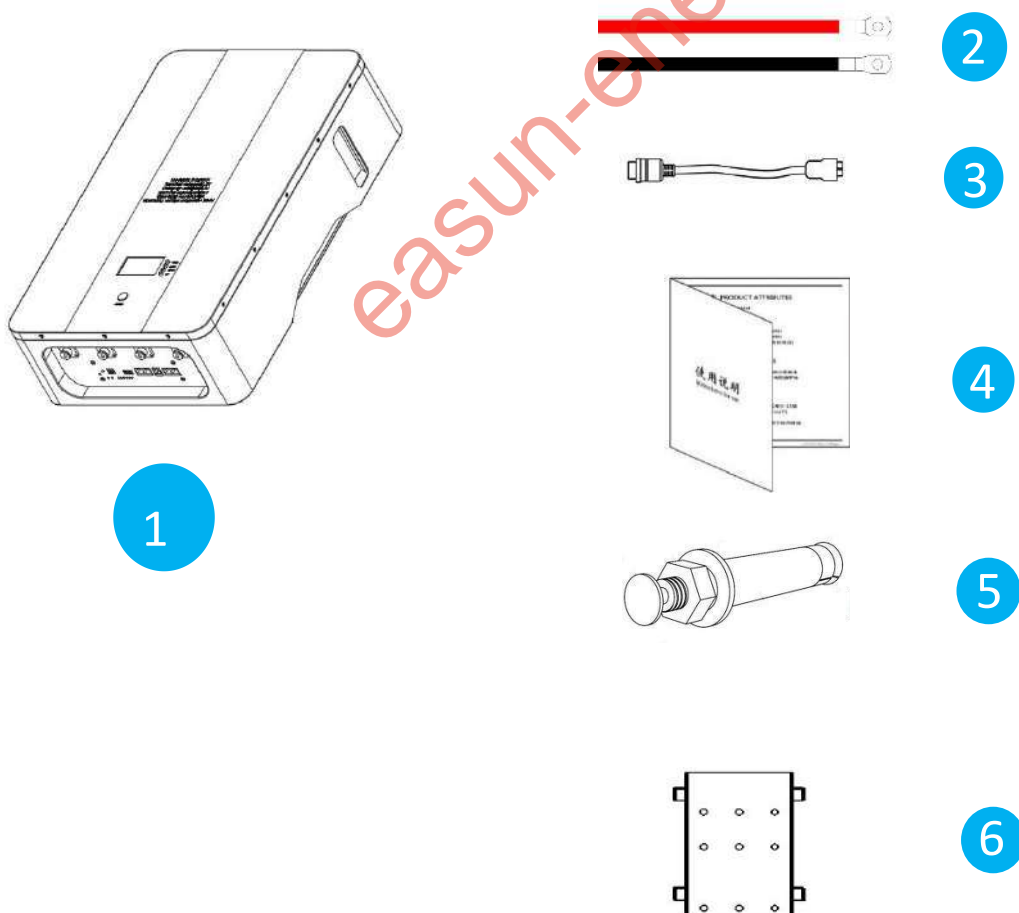

Fig. 2-1 Schematic diagram of each part shipped
2. Check whether the random accessories are complete and correct against the list of shipped accessories (as shown in figure 2-1);